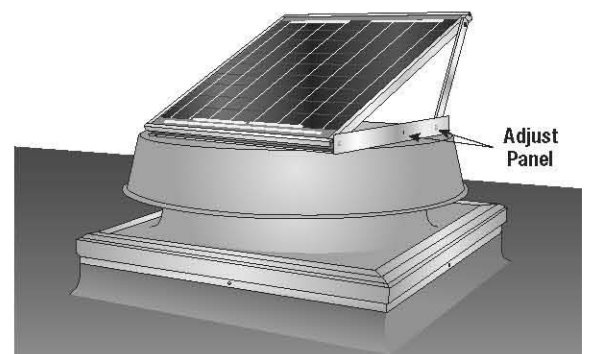

Figure 4
Step 6 Adjust angle of solar panel to position it will gather the most amount of sunlight (panel facing due south is recommended). To adjust, remove center screw on solar panel bracket and swinging arm up to desired position. Re-attach screw (see Figure 4).